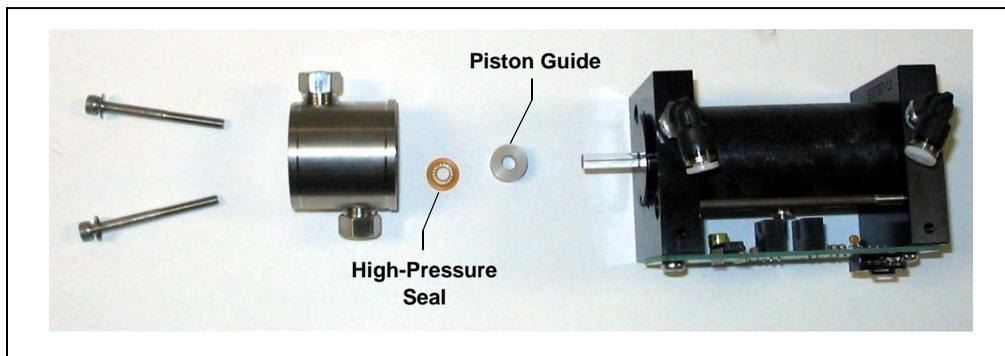

Figure 5-12. Replacing the Dionex ASE 150 Piston High-Pressure Seal
3. Turn the pump head over so that the open end is down. The tan piston guide (see Figure 5-12) should drop out of the head; if it does not, gently tap the head on the workbench to dislodge the guide. Save the piston guide (it will be reinstalled in Step 7).